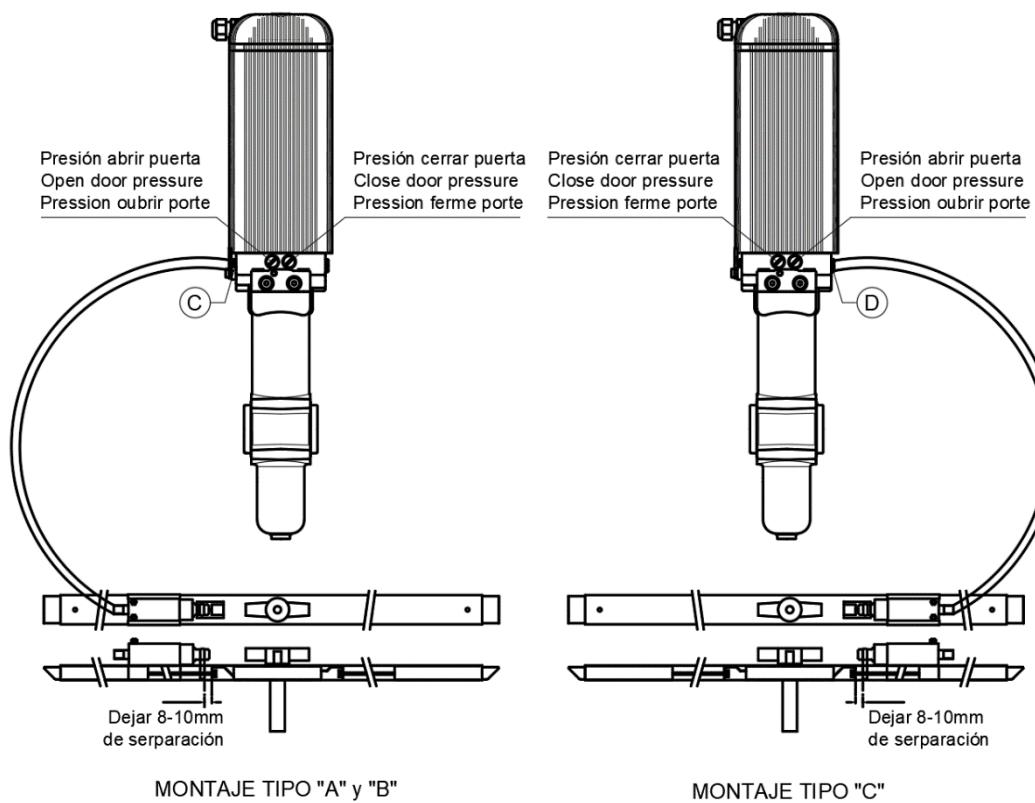

FIG. 9
11. Adjust the pressure of the limiting valves (marks "4" and "5" figure 1) to the minimum possible so that the door does not exert too much force (see figure 9).
12. In case of using a hydraulic lock, see connection figure 9.
Unit 2RU\*3S33: Connect the hydraulic lock to the hydraulic lock output (marking "C" fig. 9) in case of type A or B installation and to the hydraulic lock output (marking "D" fig. 9) in case of type C installation.